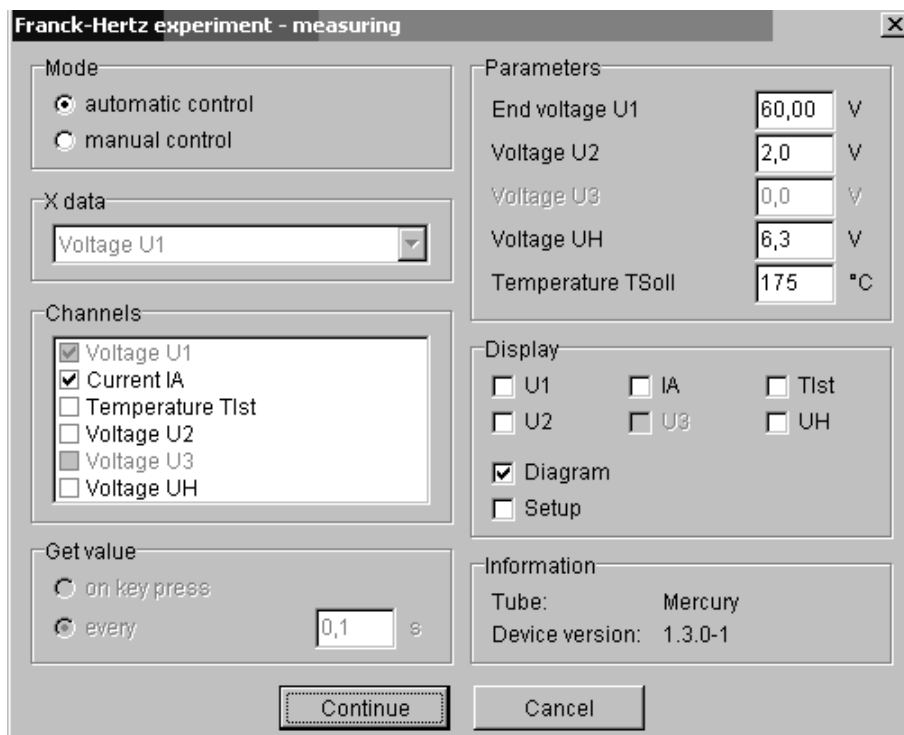

Fig. 8: Measurement parameters of the Franck-Hertz programme for the Hg-tube.
B) Start the Measure software and call the Franck-Hertz measurement programme. This automatically recognizes if the Hg tube or the Ne-tube is connected. The parameters required are predefined (see Fig. 8). The values given in Fig. 8 are typical values with which it should be possible to successfully record a measurement curve. **If the collection current is too high then the measurement will be interrupted automatically by control unit after 7 sec. to protect the tube from being damaged. To avoid the discharges adjust the parameters U_2 , U_3 and U_H as follows: decrease the heating voltage U_H and decrease the voltage U_3 .**